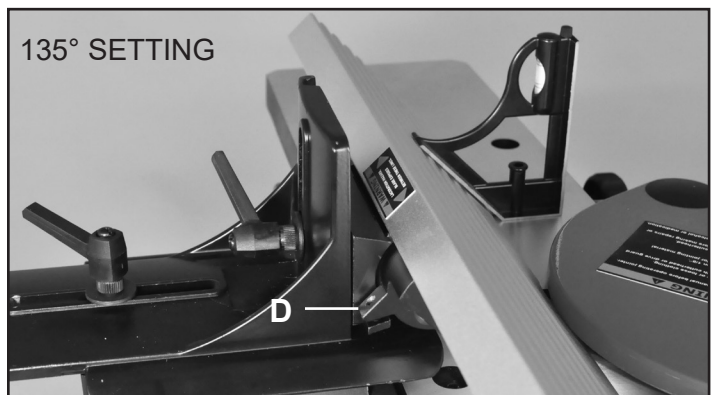

FIG. 21
6. Put a square on the table with one end against the fence and adjust the fence until it is exactly 135 degrees to the table. FIG. 21.